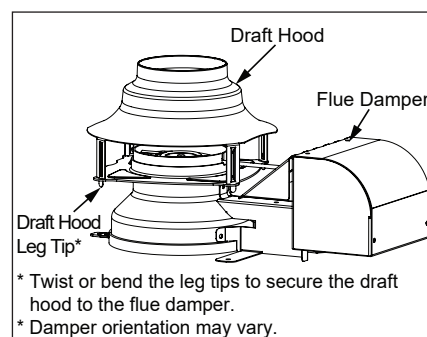

Figure 29 - Install the new draft hood.
- 1** Install the new draft hood by aligning the legs and inserting them into the slots on the flue damper's flange. (See Figure 29.) Do not reuse the draft hood from the old water heater, but rather use the new one that came with your new water heater.